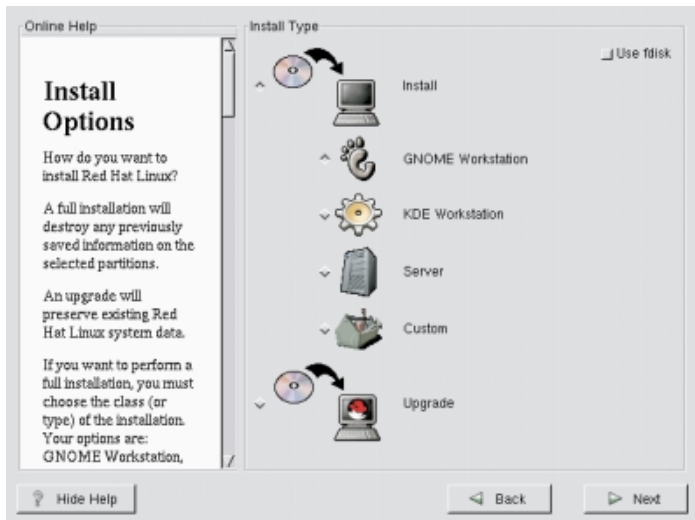

Figure 1 Install Options Window
6. Click **Next** in the **Red Hat 6.2 Linux System Installer** window to continue. The **Install Type** window shown in Figure 1 appears.
1. Click the **Install** and **GNOME workstation** option buttons (if not already selected by default) in the **Install Type** window shown in Figure 1. Click **Next** to continue.